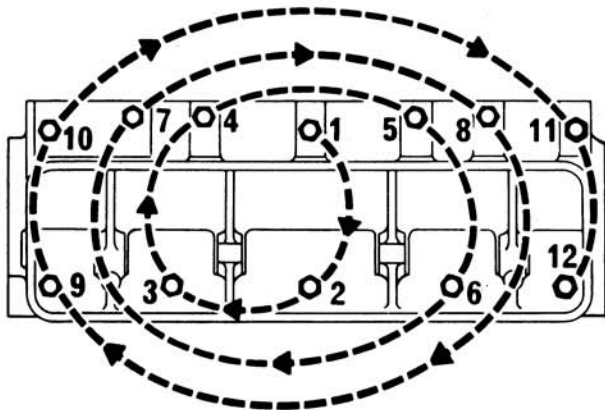

FIGURE 16. RECOMMENDED CYLINDER HEAD TORQUE SEQUENCE
6. Tighten the capscrews with a torque wrench in the recommended sequence to the correct torque (chart on page 22) by going over them twice before pulling them down to the final torque on the third round (Figure 16).